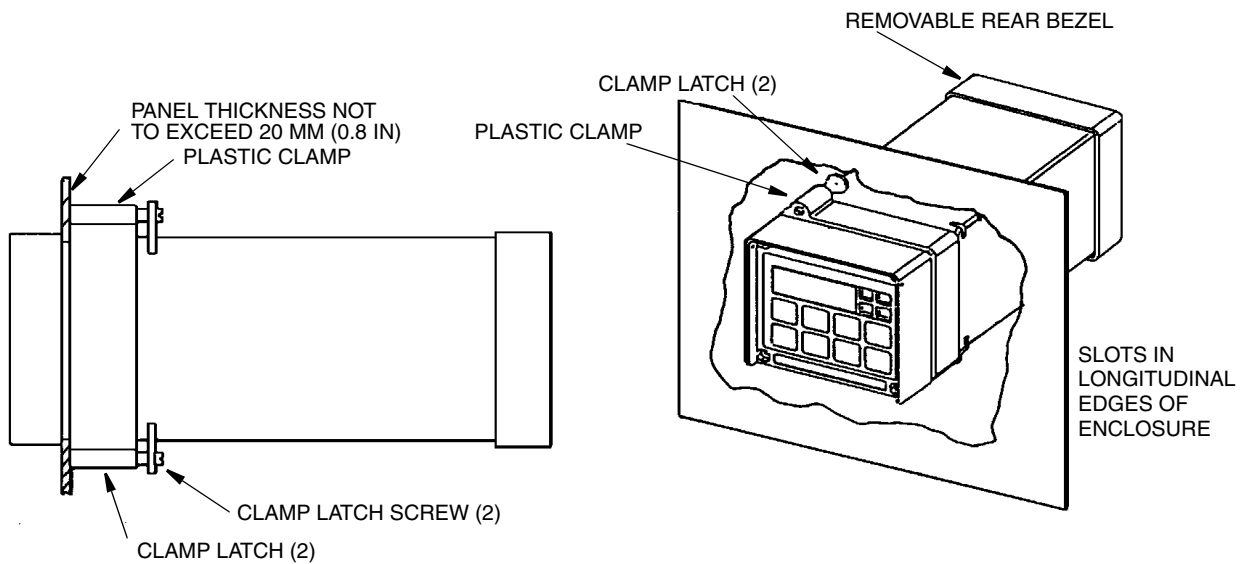

Figure 6. Mounting to Panel - Metal Enclosure
3. From rear of panel, slide plastic clamp onto enclosure until clamp latches (two) snap into two opposing slots on longitudinal edges of enclosure. See Figure 6.
4. Tighten screws (CW) on clamp latches until enclosure is secured to panel.